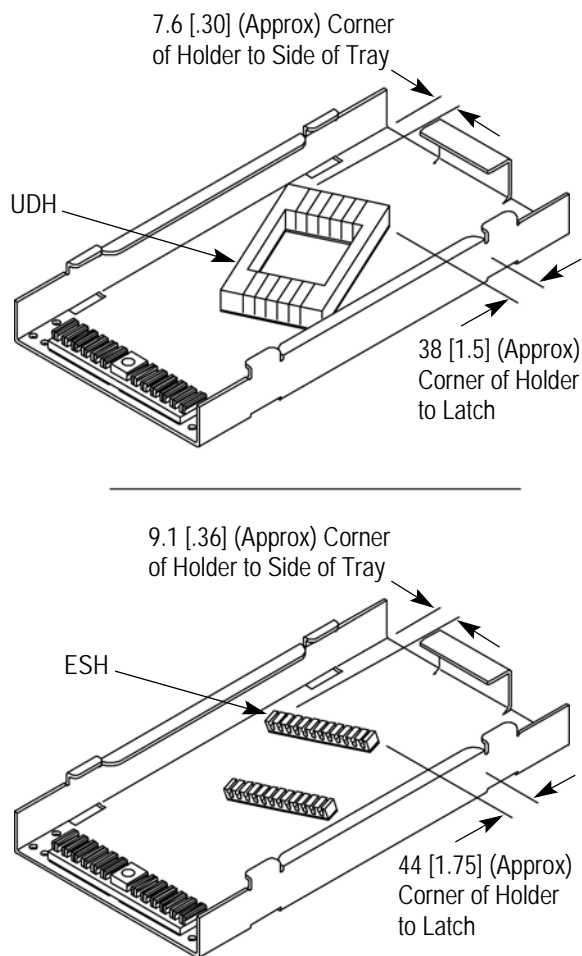

Figure 4
3. Remove the backing from the foam tape on the underside of the holder. Position the holder in the tray at an angle and so that it conforms to the dimensions shown in Figure 4.